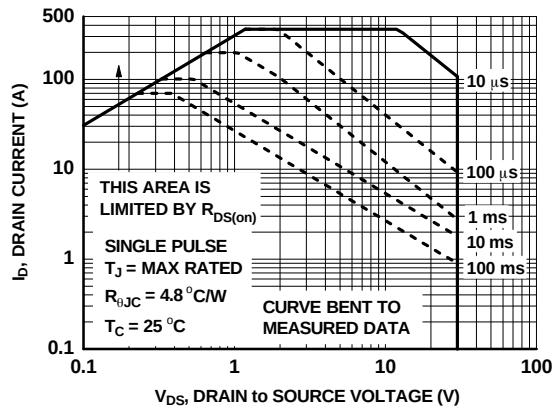
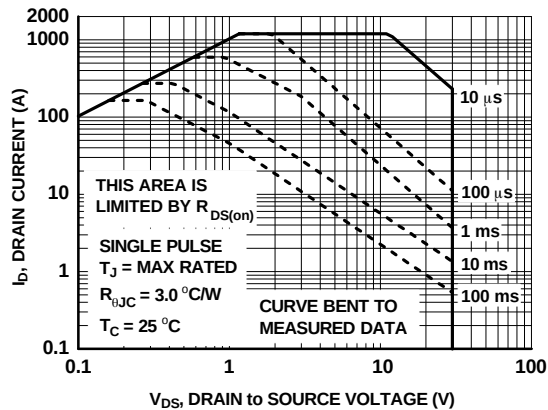

Figure 11. Forward Bias Safe Operating Area
Figure 24. Forward Bias Safe Operating Area
4. Pulsed I_d please refer to Figure 11 and Figure 24 SOA graphs for more details.